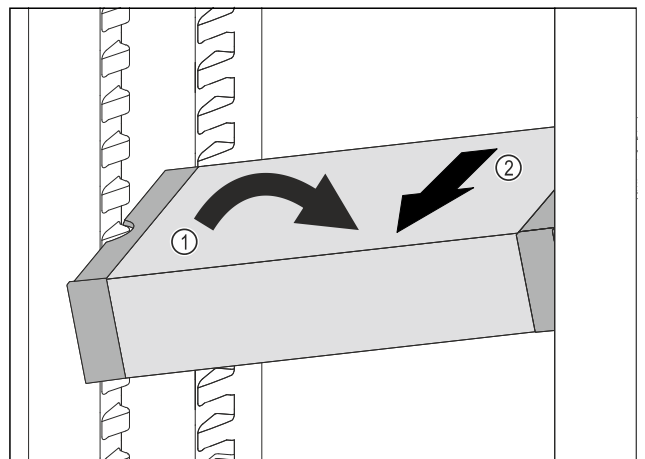

Fig. 124
- ▶ Set VarioSafe in refrigerator compartment at an angle. Fig. 124 (1)
- ▶ Take VarioSafe out to the front. Fig. 124 (2)